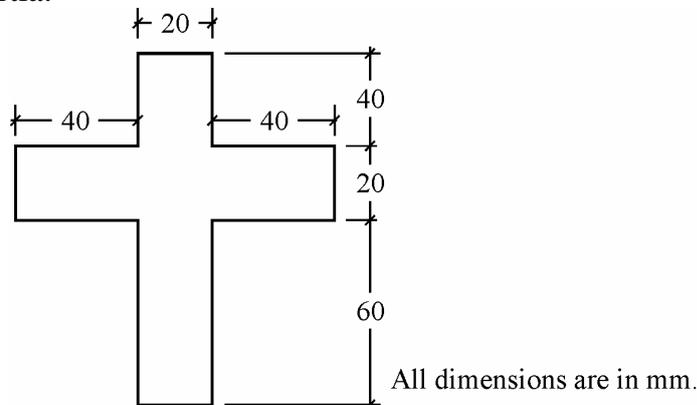

Fig. 3
- (f) Find the MI of the section shown in the fig. 3 about the vertical and horizontal axis passing through centre of gravity also find polar moment of inertia.